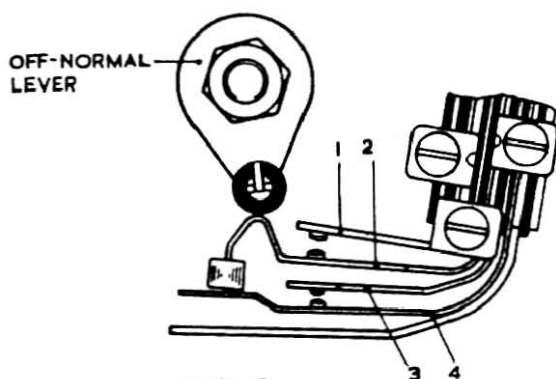

FIG. 9
- .1 The switching lever should be adjusted so that in its normal position, it rests at the top of the set in the first lever spring (see Fig 9).